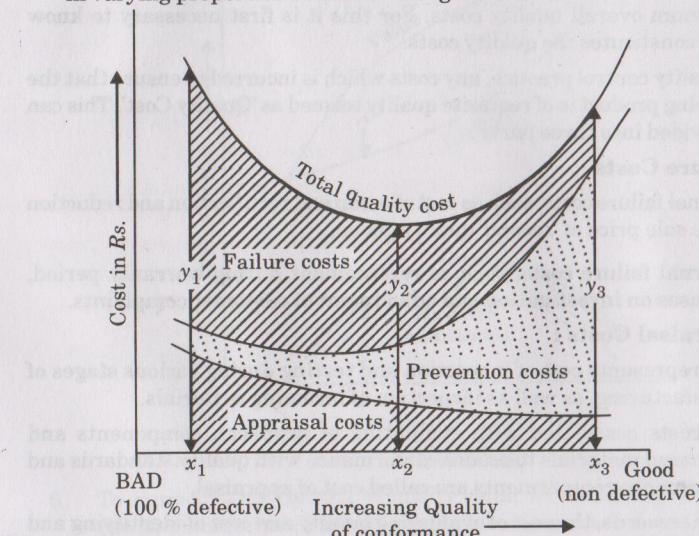

Fig. 2.10.1.
3. The total quality costs comprise of the above mentioned three elements in varying proportion as shown in Fig. 2.10.1.